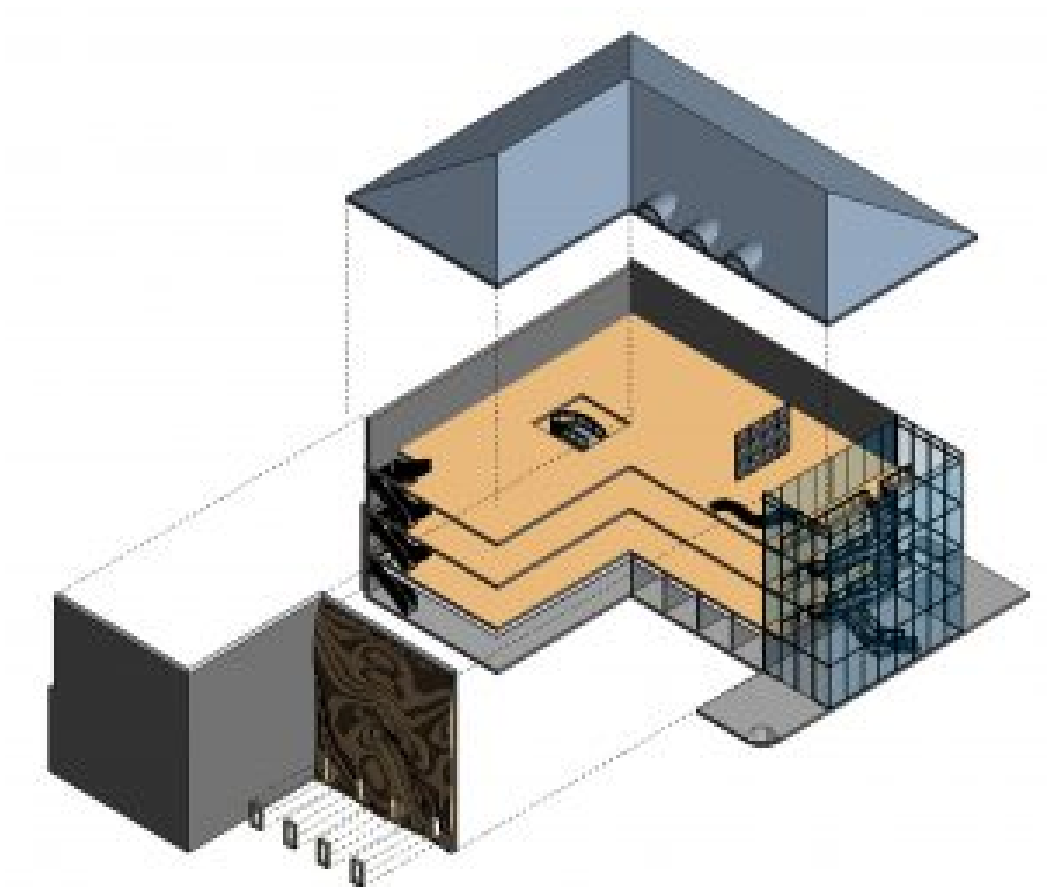

Figure 9.9 Exploded Isometric
8. Add path lines as shown in Figure 9.9